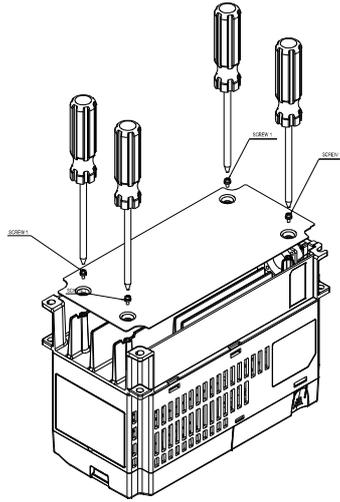

Figure 1
1. Install accessory 1 by fastening 4 of the screw 1(M3) (figure 1). Screw torque: 6~8kg-cm (5.21~6.94lb-in).